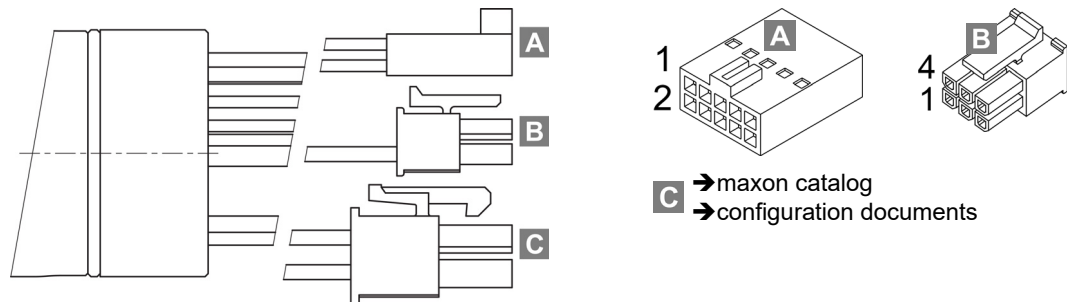

Figure 14 ENX 13...22 EASY INT COMM – Cable Plugs
- Encoder with plug / Hall sensors with plug / Motor with plug (→Figure 14)